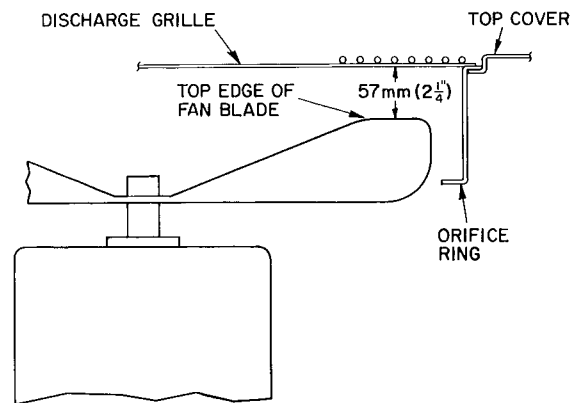
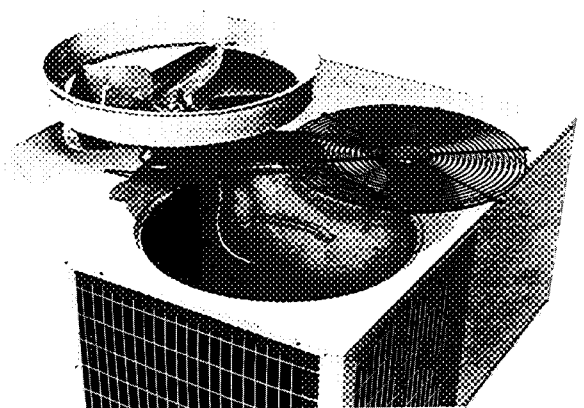

Fig. 14—Outdoor Fan Position
Fig. 16—Fan and Motor Removed
**Outdoor Air Fan**—Fan position is shown in Figs. 14 and 15. Adjust fan by loosening setscrews and moving blades up or down. To remove outdoor air fan and motor: disconnect power, and remove screws holding discharge grille in place. Disconnect fan motor leads from the motor. Lift complete fan, motor, and orifice assembly (Fig. 16) out of unit. After replacing fan motor assembly, reconnect fan motor leads.